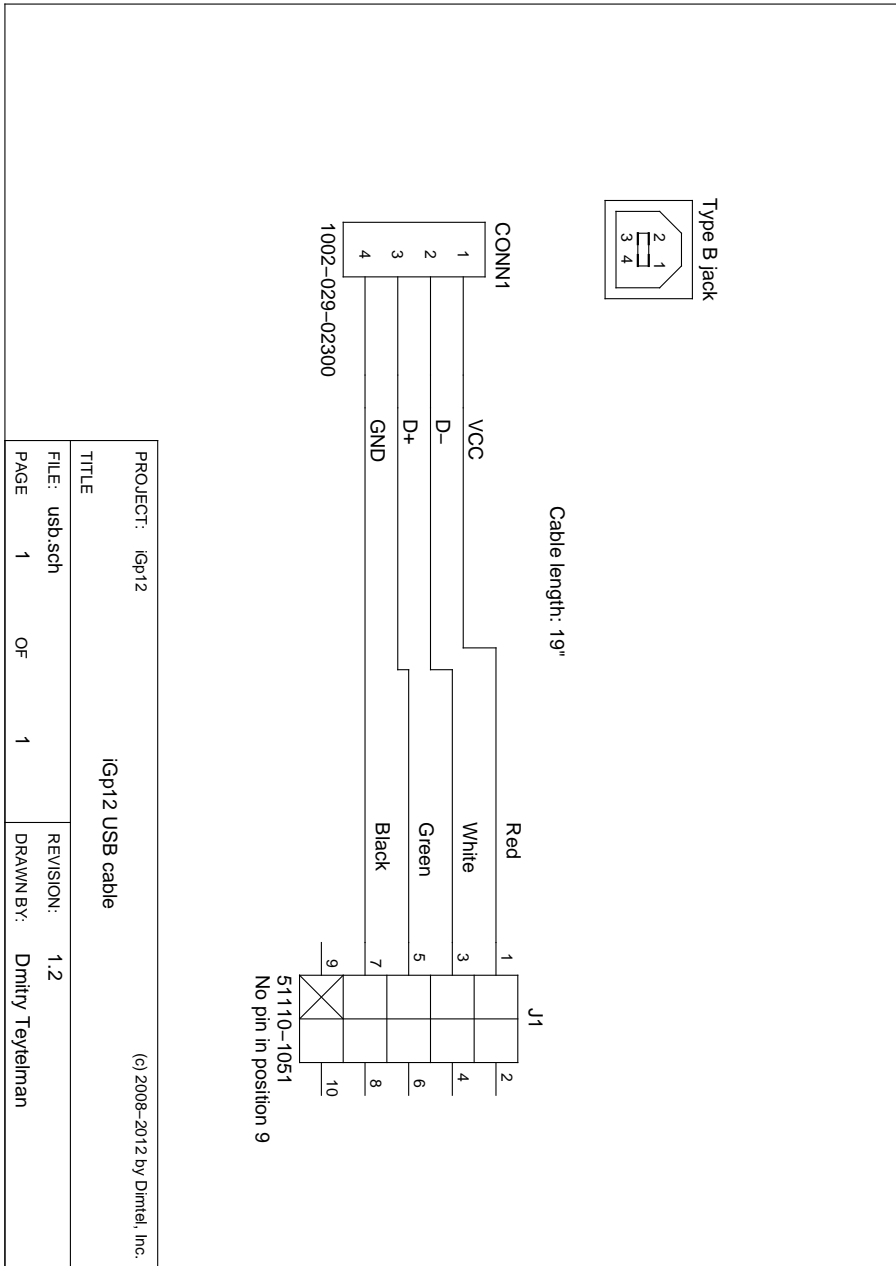
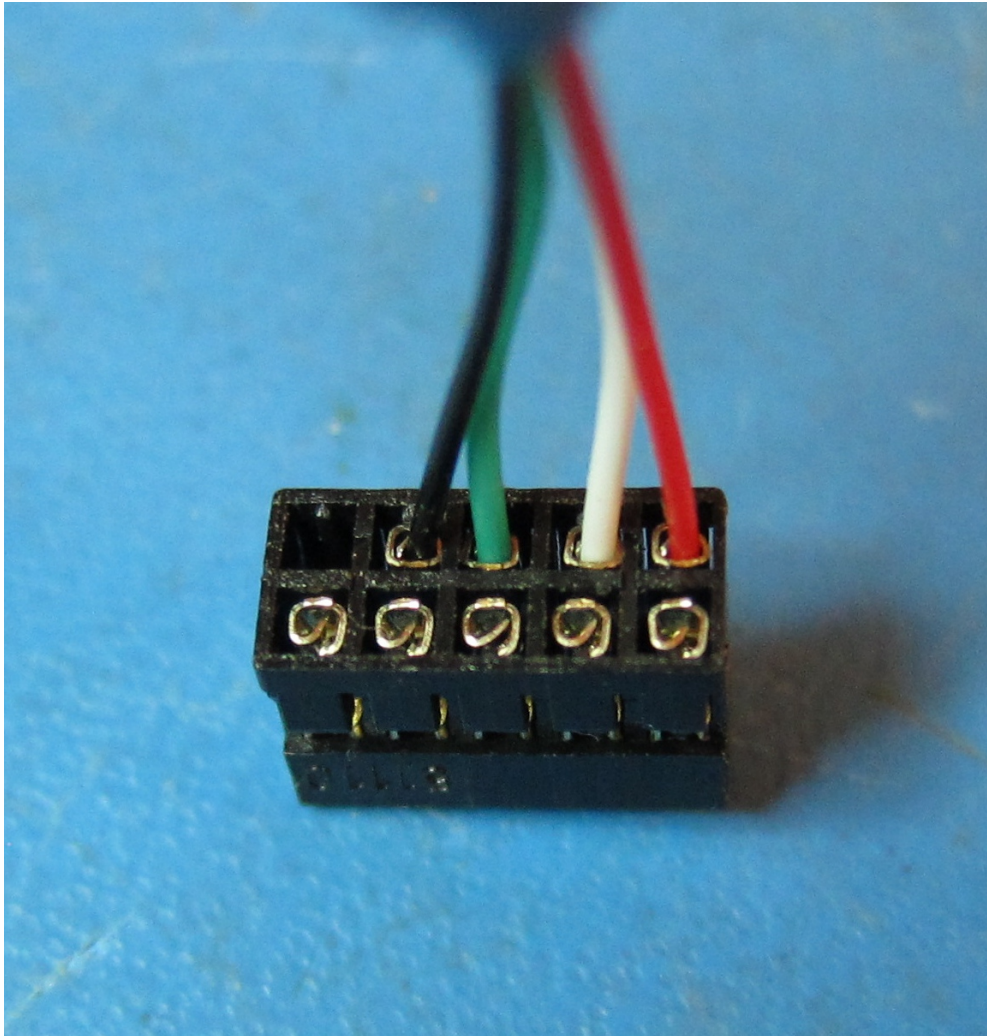

Figure 12: USB cable schematic.
Figure 13: 2 mm connector fully assembled.
6. Insert the pins into the 51110-1051 connector housing. Refer to schematic (Fig. 12) and photo (Fig. 13).
7. Crimp five 50394-8100 pins without wires and insert them into the 51110-1051 connector as shown in Fig. 13. Make sure the pins are fully seated in the connector.